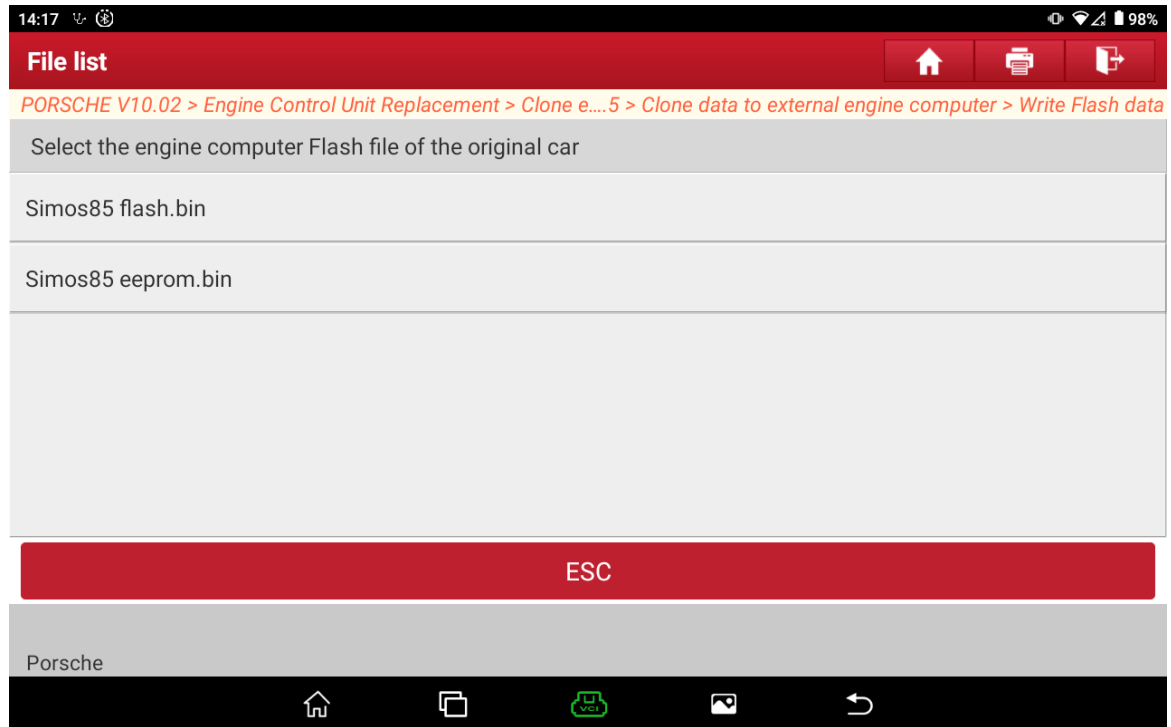
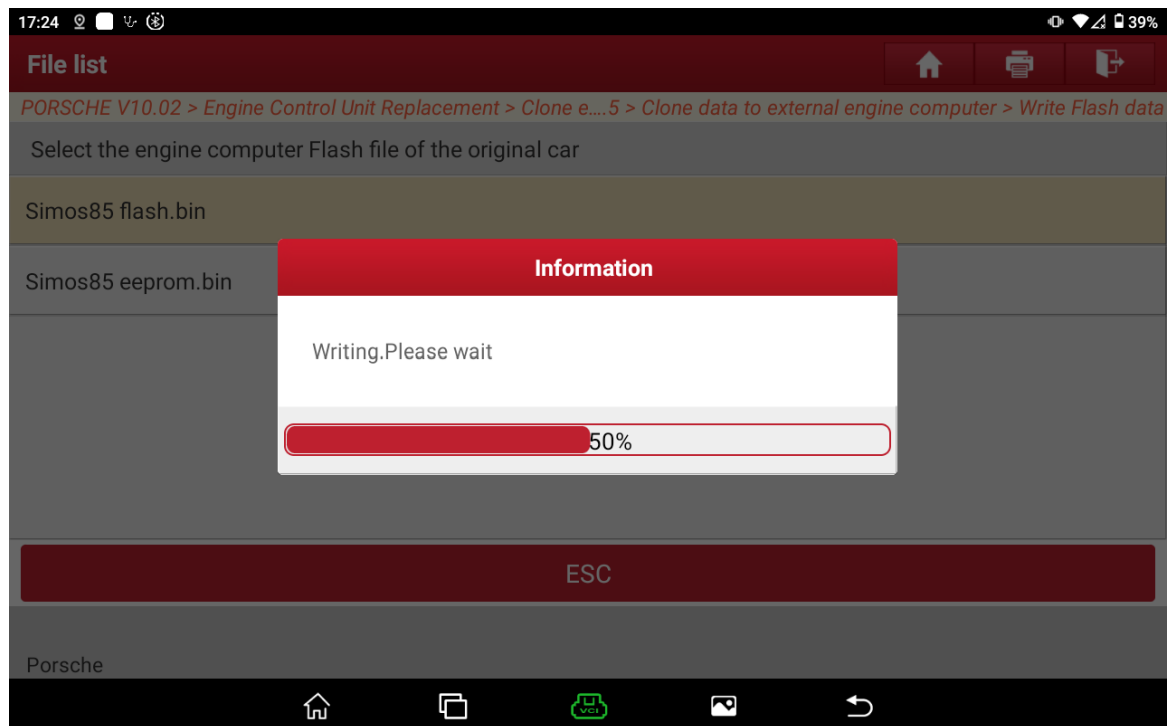
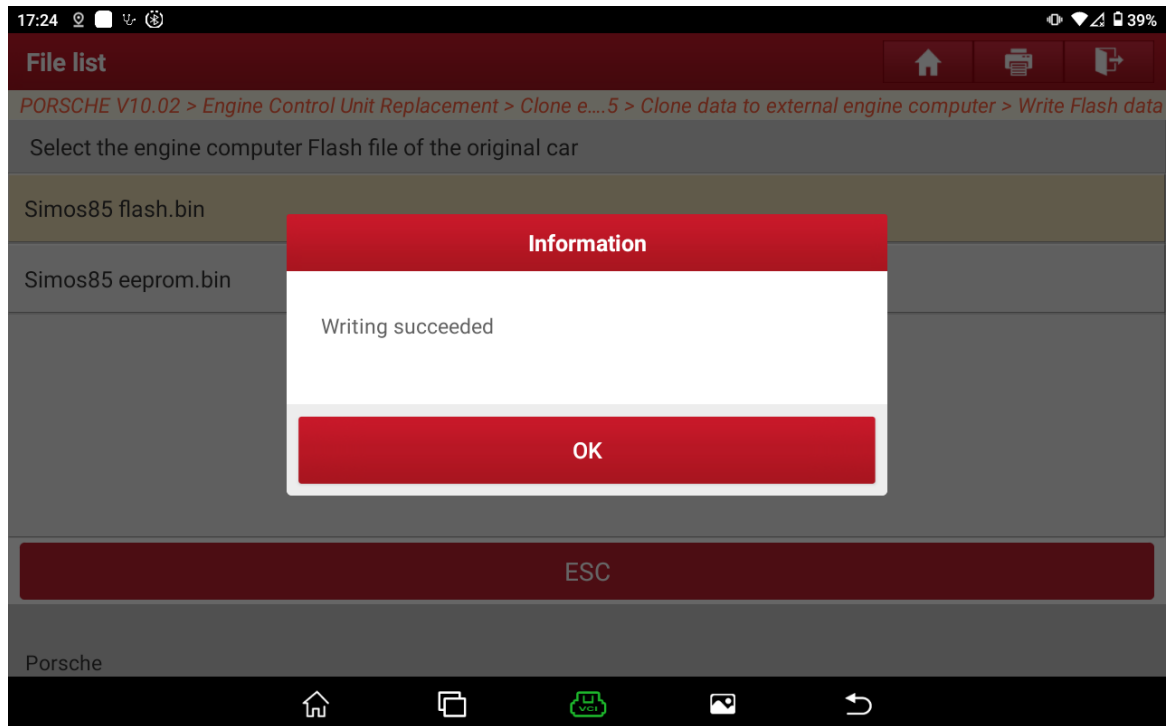

Figure 19
Figure 20
Figure 21
- 12. Execute [Write Flash data] and select the backed-up Flash data file, as shown in Figure 19, Figure 20, and Figure 21.